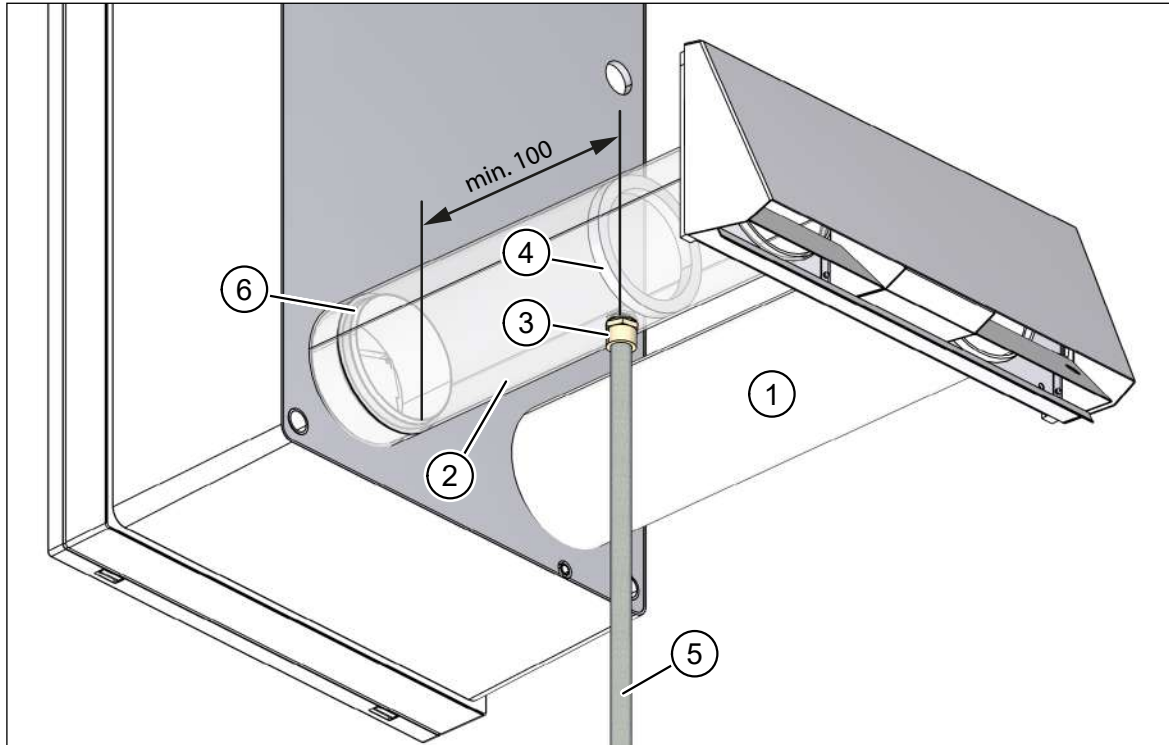

Fig. 30: Condensate drain on the exhaust air pipe, dimension in millimetres
- Outdoor air pipe, DN 100, 0.5 m (item 1 in Fig. 30)
- Exhaust air pipe, DN 100, 0.5 m (item 2 in Fig. 30), with 1/2" male thread connection (item 3 in Fig. 30) and barrier (item 4 in Fig. 30) for retaining the condensate
- In cold regions, protect the condensate drain pipe (item 5 in Fig. 30) against frost, e.g. by running it behind the facade insulation.
- Maintain a minimum gap of 100 mm between condensate drain pipe (item 5 in Fig. 30) and exhaust air connector (item 6 in Fig. 30).